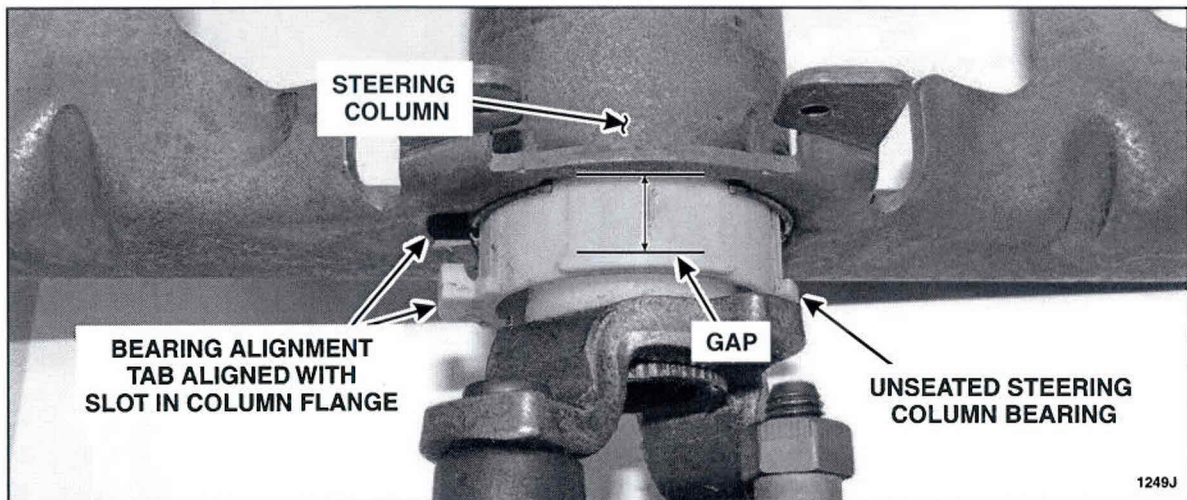

FIGURE 8
2. Align the bearing alignment tab with the slot in the column flange. See Figure 8.